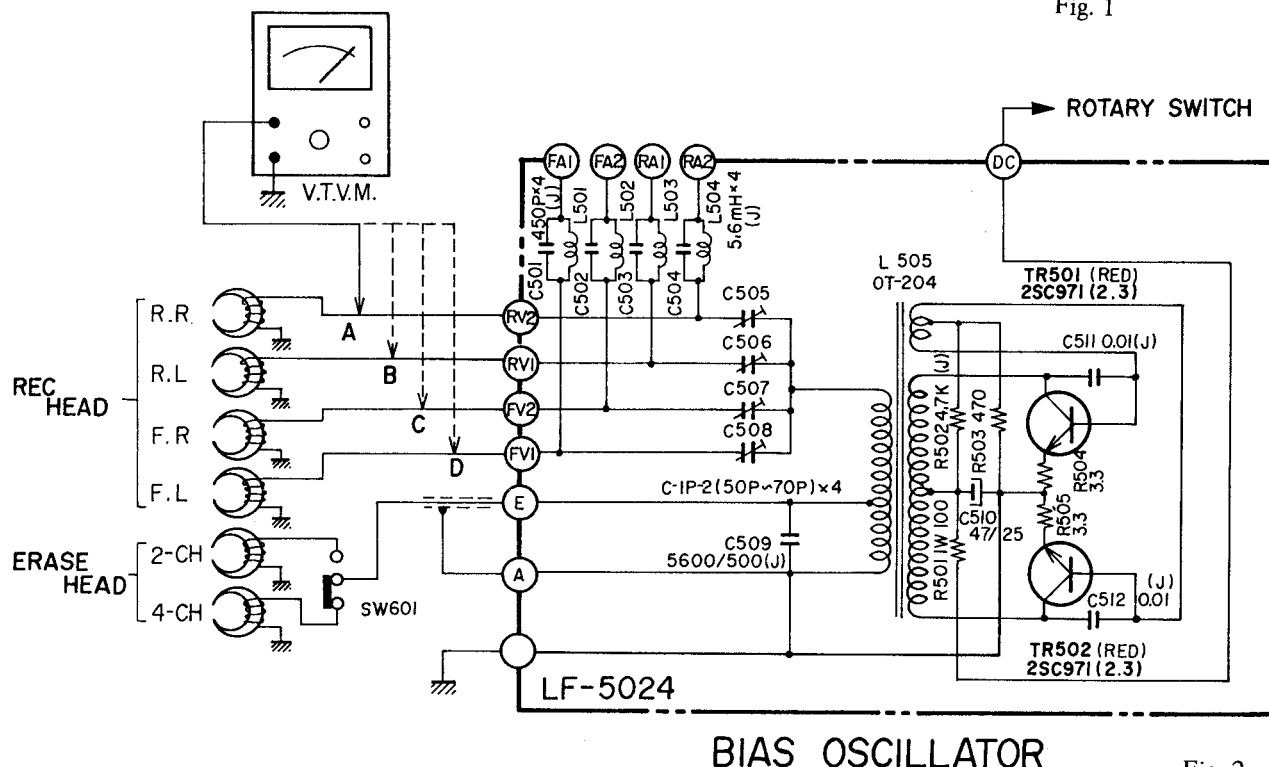

Fig. 2
2. RECORDING BIAS VOLTAGE ADJUSTMENT (Fig. 2)